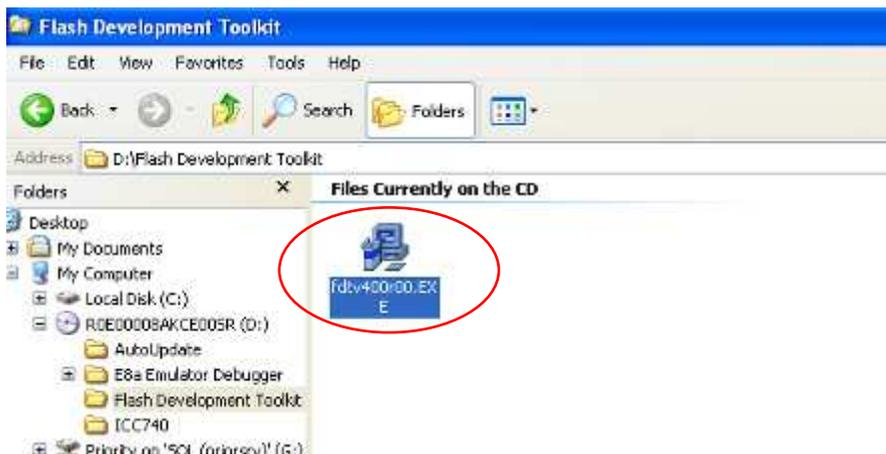

Figure 54:
2. .Open "Flash Development Toolkit" (**Error! Reference source not found.**) sub-folder and run Exe. file (Figure 54).